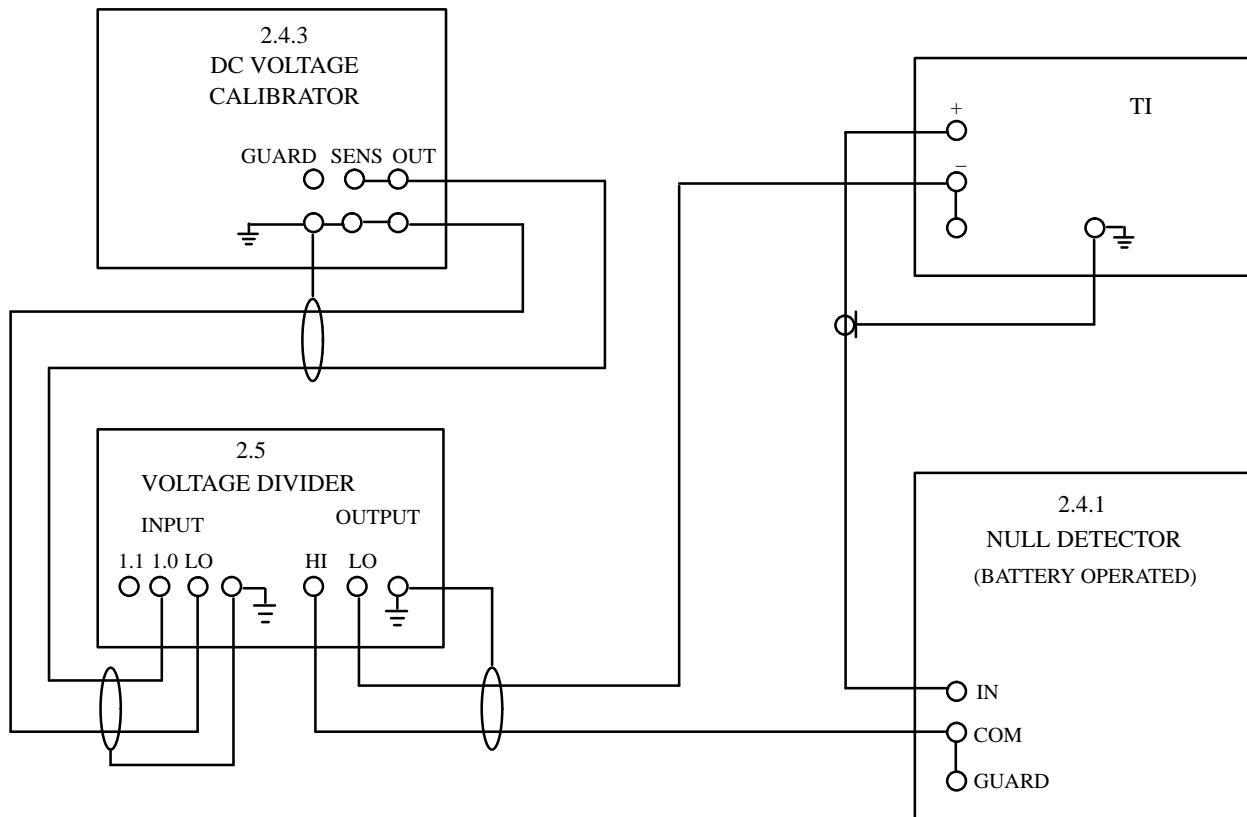

Figure 4. DC Volts Decade Test Configuration
4.4.1 Connect equipment as shown in Figure 4.